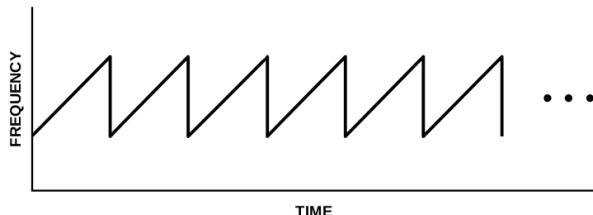
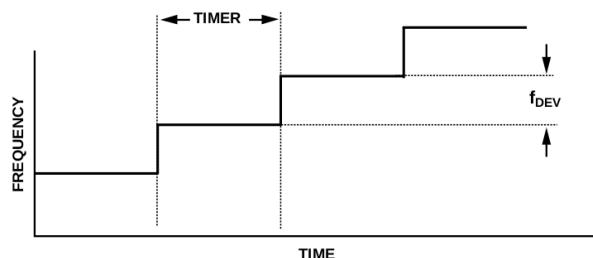

Figure 1.10: Sawtooth ramp.
Figure 1.11: Waveform timing.
The ADF4158 is capable of producing several different waveforms. The one used in this design is a sawtooth ramp in frequency as a function of time, shown in Figure 1.10. There are 3 different parameters that determine the shape of a ramp: (1) frequency deviation (the amount the frequency increases at each time step), (2) timeout interval (the amount of time between each time step) and (3) the number of time steps. This is shown diagrammatically in Figure 1.11. The equations governing these parameters are given in Equation 1.5. The number of steps is set directly in register 6. In our configuration $f_{DEV} = 300\text{kHz}$ and Timer = $0.5\mu\text{s}$, which given that the number of steps is equal to 2000 and the starting frequency is 5.3GHz, the sawtooth will ramp from 5.3GHz to 5.9GHz in 1ms. We also use a delay between bursts of 2ms. Equation 1.6 is used to derive this.